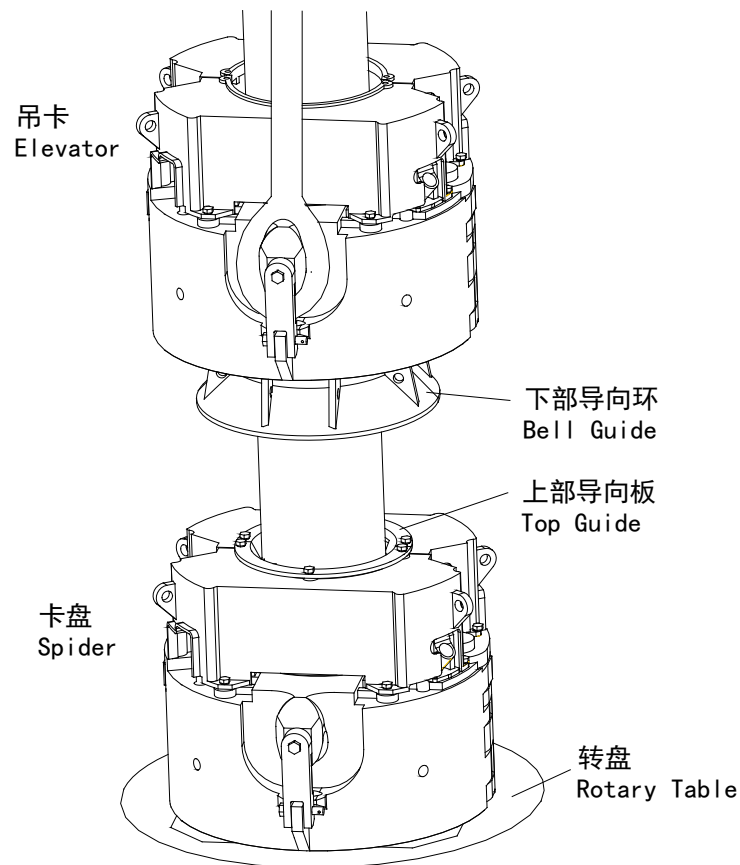

Figure 1-1
The 350、500 and 750 Ton Elevator/Spider Units are shipped as Illustrated in Figure 1-1. A specified set of slip segments and guide rings are shipped installed.
A typical installation is shown in Figures 1-1 and 3-1.
4. Attach links to Elevator as indicated in Figure 1-1, placing link eyes on Elevator hook ears and secure in place.